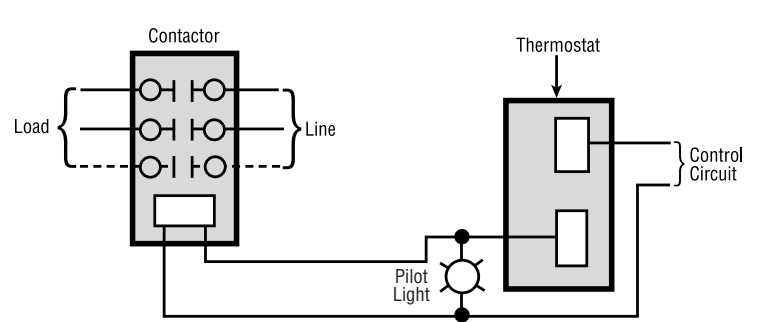

Figure 11 — Single phase loads when load exceeds rating of thermostat and three phase loads.
5. **Note:** If load amperage or voltage rating exceeds switch rating, a contactor must be used. (See Figure 11) Contactors are available as an optional part.